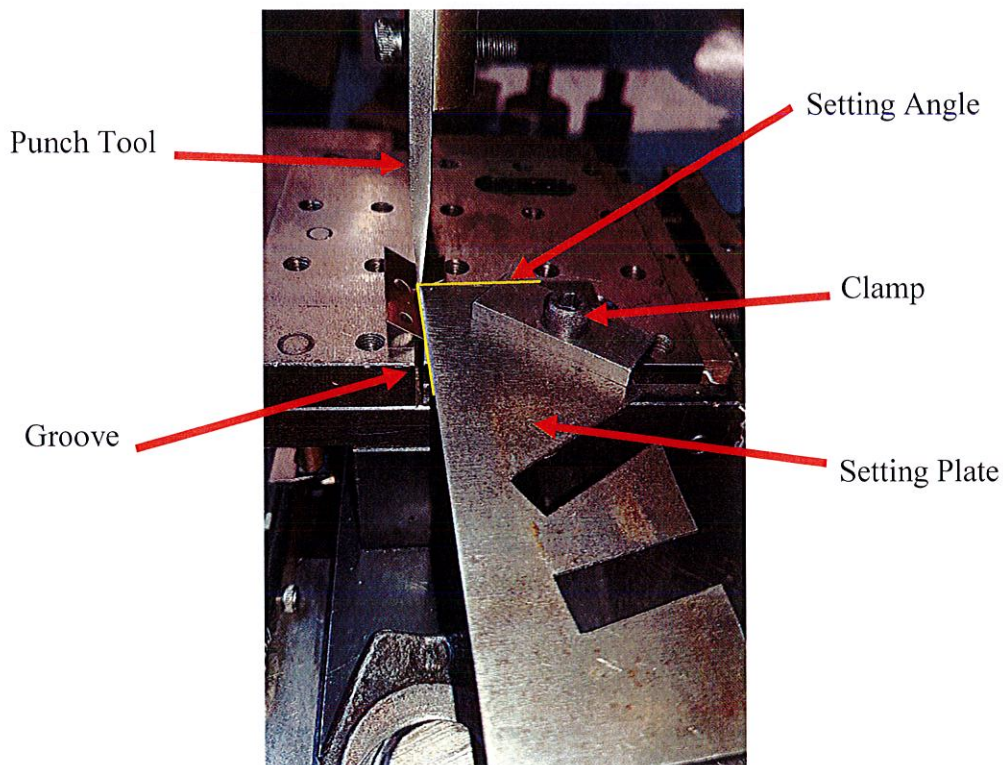

Figure 3: Setting plate shown in position to create the correct angle bent on the component.
6.3. **Setting Plate.** Figure 3 shows where the setting plate should be clamped to the press table/ vice. Position the setting plate so that when the component is pushed up to it and bent, the correct angle is created. **Always push the component into place with the two punched holes nearest you.** This will ensure the component is bent the same way each time.